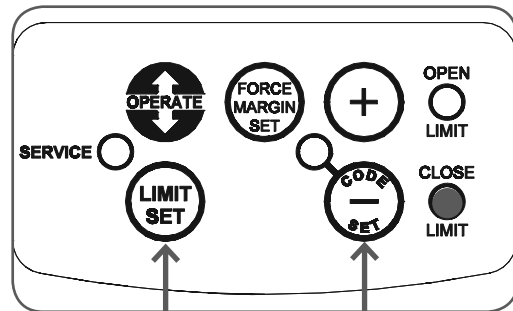
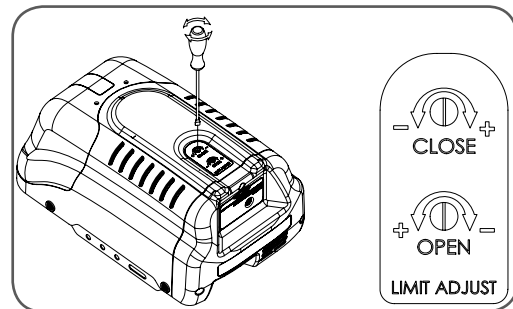

Fig 24
Fig 25
Plug the power cord into a mains point and switch power on. The red CLOSE LIMIT LED will be flashing (Fig. 24).
- Press and hold the MINUS (-) button (Fig. 24) until the door reaches the desired close limit position.
- Using a small screwdriver turn the red close limit adjust screw anticlockwise (Fig. 25) until the red CLOSE LIMIT LED illuminates (Fig. 24).
Turning the close limit screw towards (+) allows the door to drive more in the close direction. Turning the close limit screw toward (-) allows the door to drive less in the close direction. (Fig. 25)
Press the LIMIT SET button (Fig. 24) to confirm the close LIMIT SET position of the door. The green OPEN LIMIT LED should now be flashing.